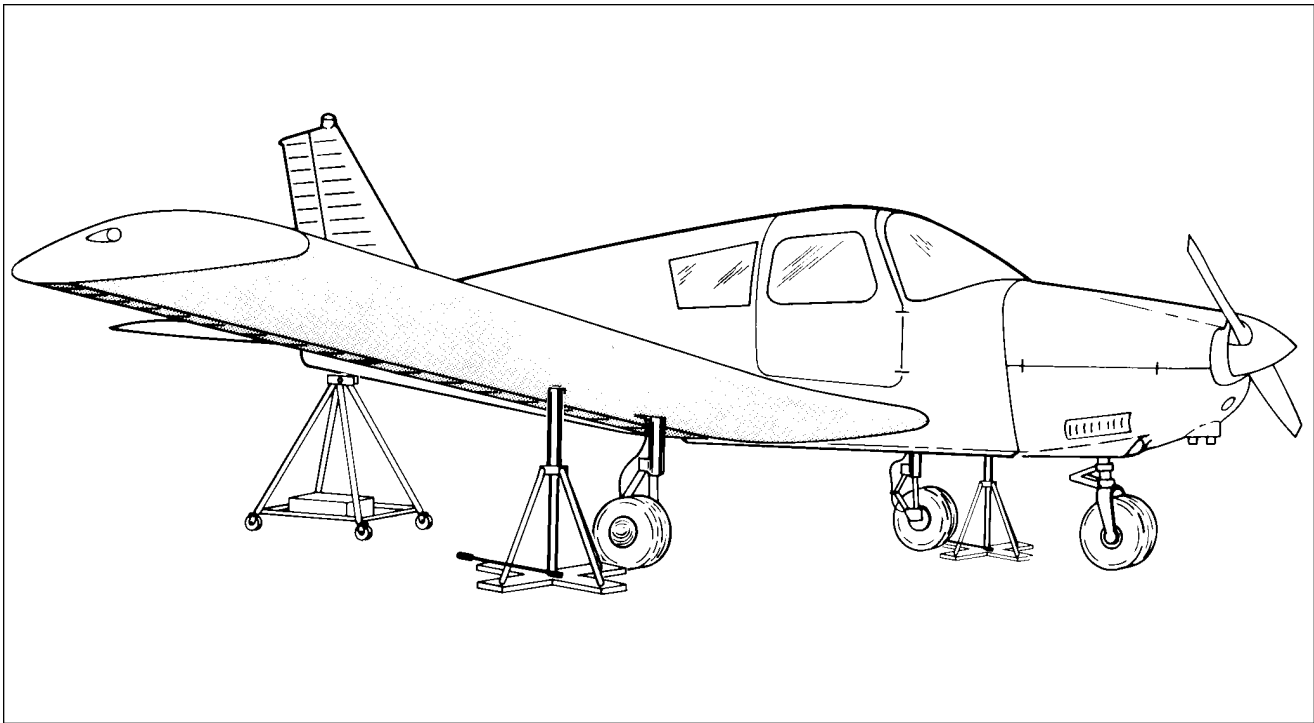

Figure 7-1. Jacking Arrangement
1. Place jacks under jack pads on front wing spar. (refer to figure 7-1.)